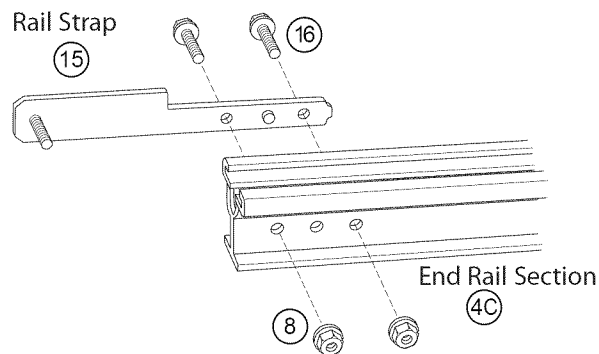

Figure 13 Attach Rail Strap
- A Attach Rail Strap (15) to End Rail Section with 2 (1/4"-20) Hex Head Bolts and 2 (1/4"-20) Serrated Flange Hex Nuts (Figure 13).